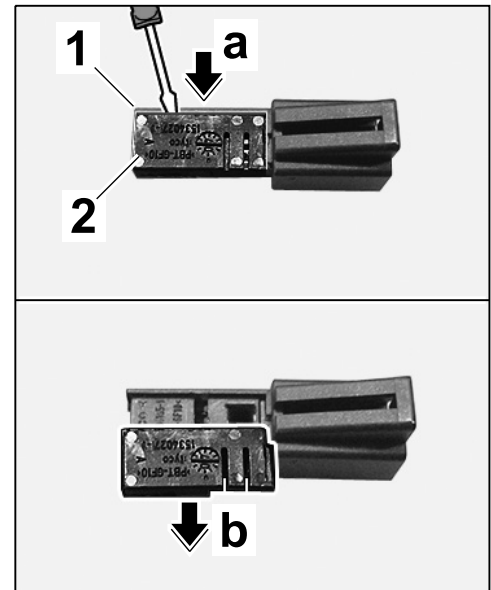

Figure 10
- 2.3.2 Insert a screwdriver in between the plug socket \Rightarrow Figure 10-1- and secondary lock \Rightarrow Figure 10-2- (\Rightarrow Figure 10-arrow a-) and release secondary lock \Rightarrow Figure 10-arrow b-.